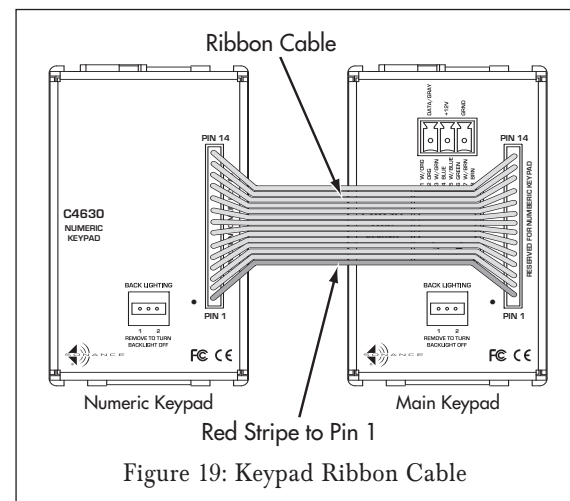

Figure 19: Keypad Ribbon Cable
- Connect the ribbon cable so that the wire with the red stripe connects to Pin 1 on both keypads (see Figure 19).